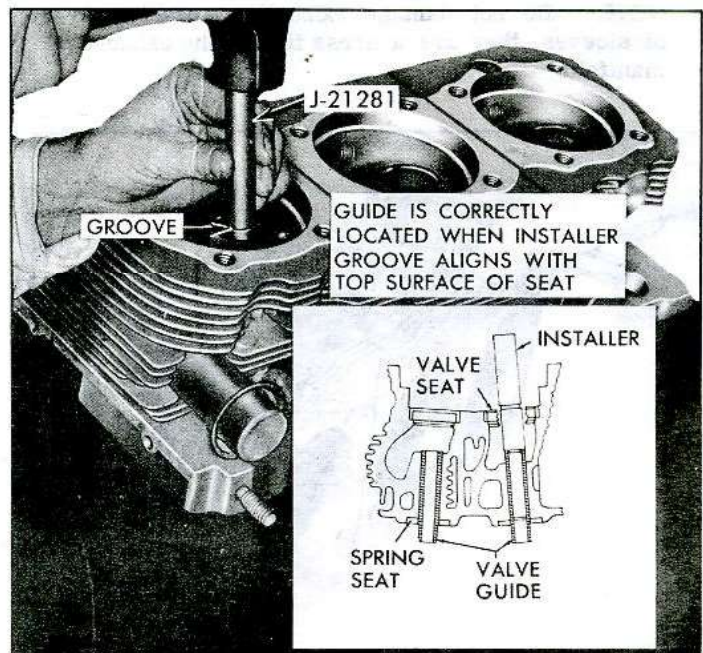

Fig. 90—Installing Valve Guide
6. Coat outside diameter of the selected valve guide with oil; then using Guide Installer J-21281 and a hammer, start guide, tapered end first, into bore from combustion chamber side of the cylinder head. Final installed height should be approximately 1" from the top surface of the valve seat insert to the end of the guide. Correct height can be determined by aligning the groove on the installer--flush with top surface of the valve seat insert (fig. 90).